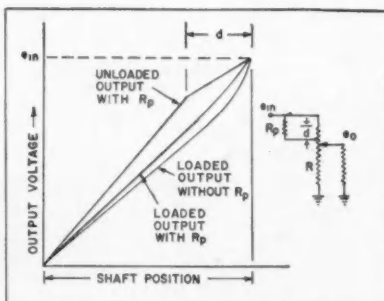

Fig. 3—Preloading to minimize loading error.
wire at the point of maximum load error and make straight line approximations by use of a padding resistor (RP), Fig. 3. Load error is not entirely eliminated and the cost of the tap, selection and installation of the trimmer, is substantial.